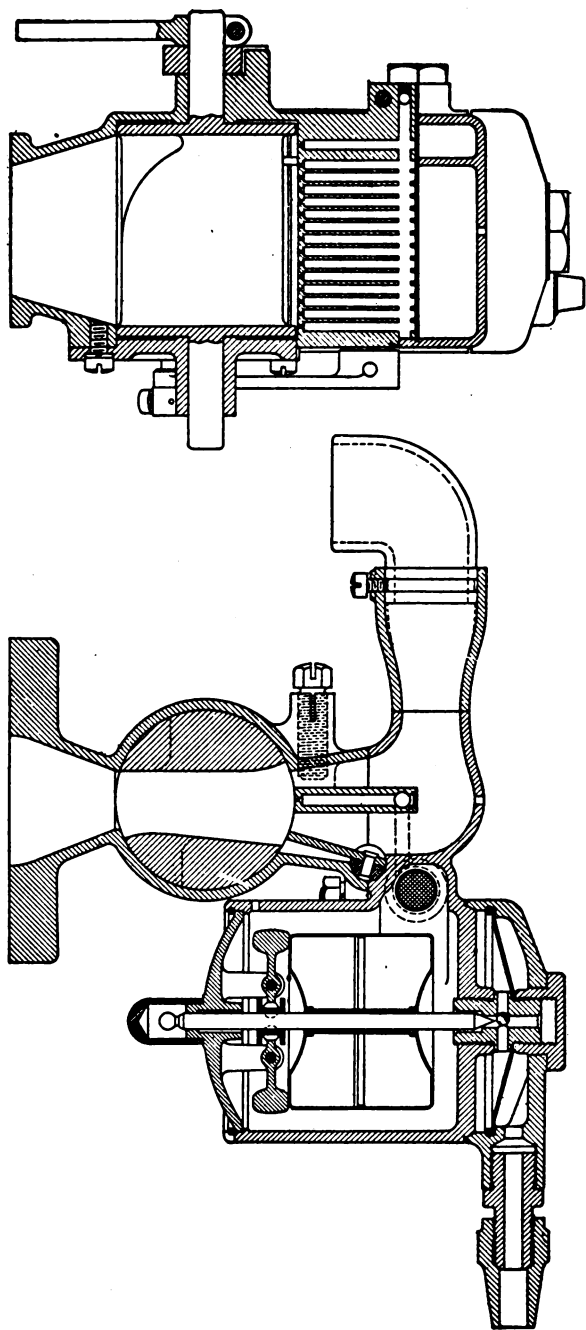

Fig. 98. Section through the Master Carburetor, Which Is a Multiple-Nozzle Form and Handles Heavy Fuels Well
**Master Carburetor.** The Master is called a carburetor without an adjustment. It was originally developed in Los Angeles for the purpose of using the heavy oil, called distillate, which is available there. This, as shown in Fig. 98, is a design of remarkable individuality. Except for the float chamber, it does not resemble any other carburetor. In design it consists of a float chamber to which the fuel enters from below through a round pan-like screen which filters it. From the float chamber the fuel passes through another cylinder-like screen which filters it again. Then it passes to one end of a long fuel passage, from which lead a series of vertical passages, each ending in a nozzle. These passages discharge the fuel into a cylindrical throttle chamber within which is placed a rotary throttle valve. This has a peculiar spiral-shaped edge, so that one tube—the end one shown on the right-hand edge slightly separated from the others—alone communicates with the vaporizing space. This is the starting and idling tube, or, nozzle. As the throttle is revolved, the spiral edge brings the other tubes into play, one at a time, until the whole number is engaged. When the throttle is revolved to the full opening, its central portion, as shown in the left-hand figure, is seen to be somewhat restricted at the center and flared at the ends to produce a slightly modified Venturi shape. The passage above the throttle leading to the inlet manifold, and the shape of the passage below it through which the air enters, both contribute to this effect.
The air enters from the right, Fig. 98, and the shape of this passage, to match the general shape of the carburetor, is low but wide. This has led to the development of a variable method of furnishing the air; for a division in the end of the passage allows of having all cold air, half cold and half hot, or all hot, as desired. For the heavy fuel conditions under which the device was developed, the all-hot air arrangement was used. Except in the hot summer months this would be most desirable, but there are conditions under which the semi-hot air arrangement would be best.